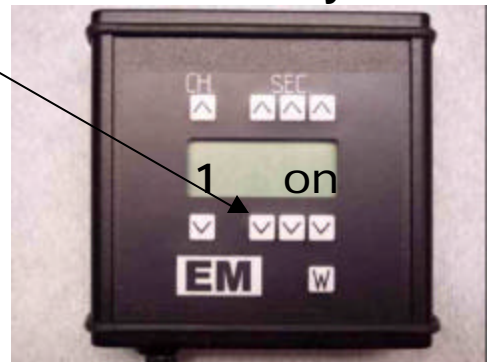

Fig. 4
3. Press the “SEC √” button, the display changes to “1 on”. This indicates that channel 1 is always active. By pressing “SEC ^” the timer returns to time entry mode. (Fig. 4)